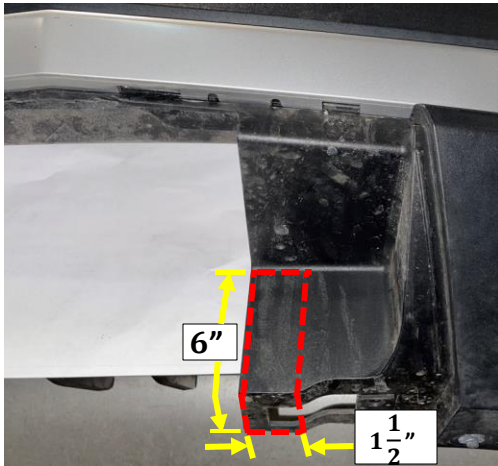

Figure 3
- Fascial door removal** – Using a 7 mm socket or T10 torxbit remove (2) bolts from fascia door. Keep the fasteners and door for reinstallation.
- Trim bottom panel** – Using a tape measure, marker, and die grinder, measure, mark, and trim the bottom panel as shown in **Figure 3**.